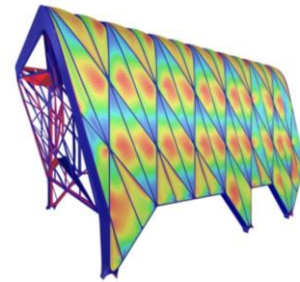

Figure 7: The Shed at Hudson Yards, NY
- **The Shed at Hudson Yards** combined our structural and façade engineering teams, rapid design iteration and environmental analysis. [Figure 7]